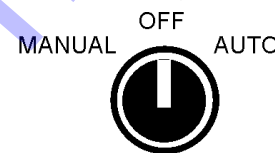

Figure 15. Manual-Off-Auto SW. (OFF Position)
1. Place the 3-position operation switch on the control box to the **OFF** position (Figure 15).